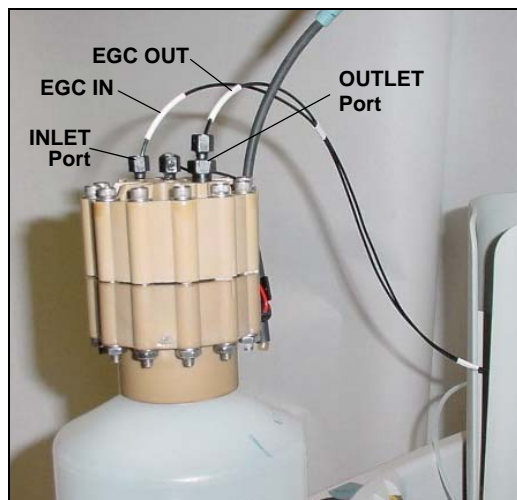

Figure 5-38. Disconnect the Dionex EluGen Cartridge Inlet and Outlet Port Lines
8. Disconnect the **EGC IN** and **EGC OUT** lines from the **INLET** and **OUTLET** ports on the Dionex EluGen cartridge (see Figure 5-38).